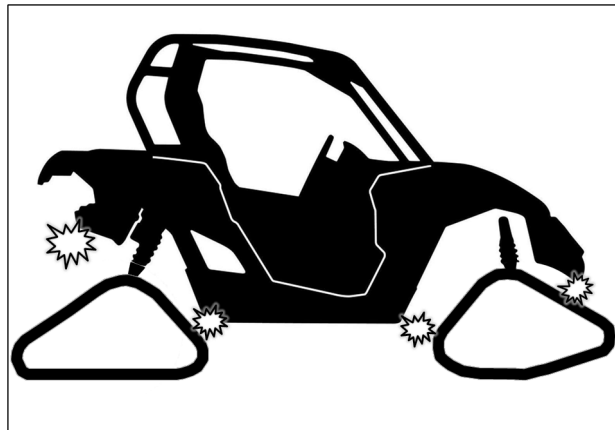

Fig. 27
2. Verify for possible contact between Track System and lower fender corners. See Fig. 27